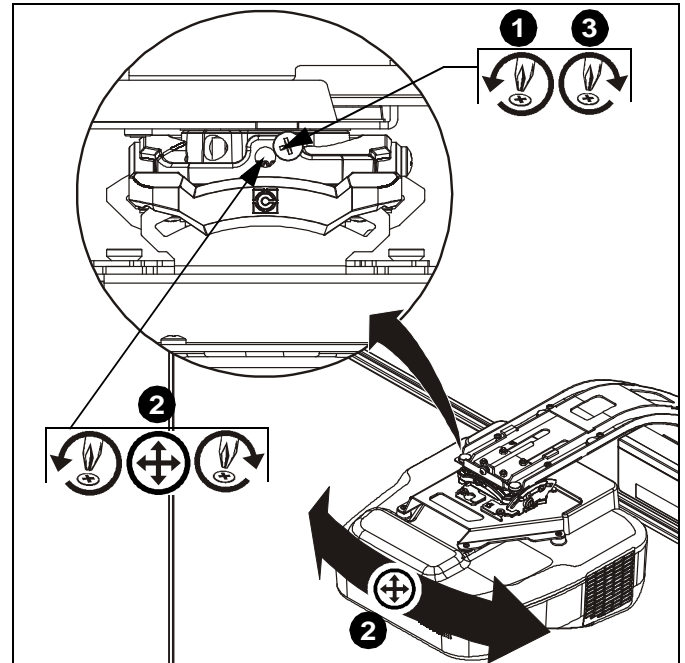

Figure 14
1. Loosen yaw adjustment locking screw using a #2 Phillips screwdriver. (See Figure 14)
3. Tighten yaw adjustment locking screw using a #2 Phillips screwdriver. (See Figure 14)